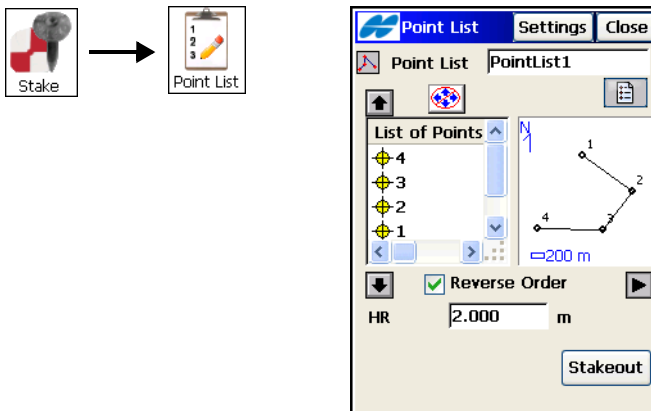

Figure 9-14. Stakeout Point List
1. To stake out points in a point list, tap **Stake ► Point List** (Figure 9-14 on page 9-11).
2. In the Stakeout **Point List** screen, select a pre-existing points list, set the antenna parameters (GPS mode): height of the antenna reference point (ARP) above the mark and the type, or the height of the rod (target) (TS mode). To perform a stakeout, starting from the end of the Point List, check and enable the *Reverse Order* box. Use the arrow buttons to modify stakeout order. Then tap the **Stakeout** button (Figure 9-14 on page 9-11).